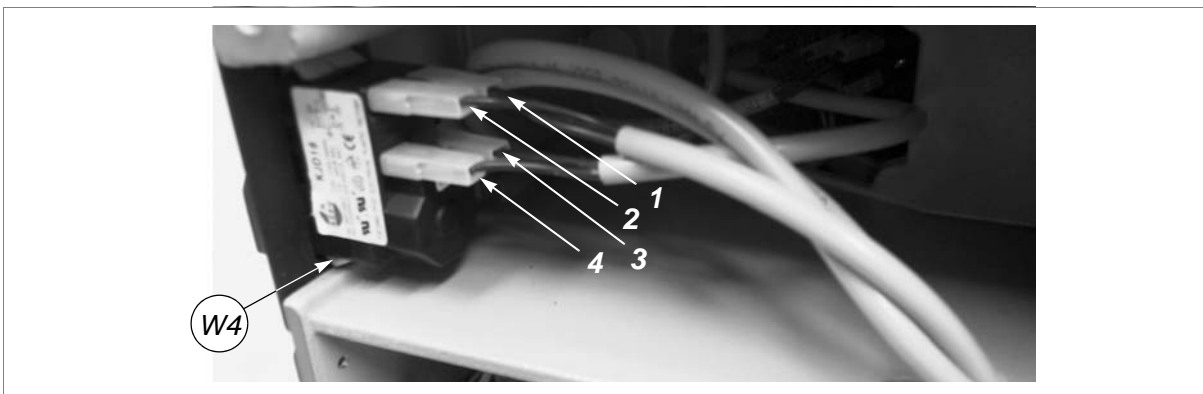

Fig. 27
- 3) Detach the various connectors (1, 2, 3, 4) paying careful attention to their positions (fig.27).
- 7) Replace the bottom safety plate and fix with the 7 screws (W) and 2 feet. Fit the swarf tray.